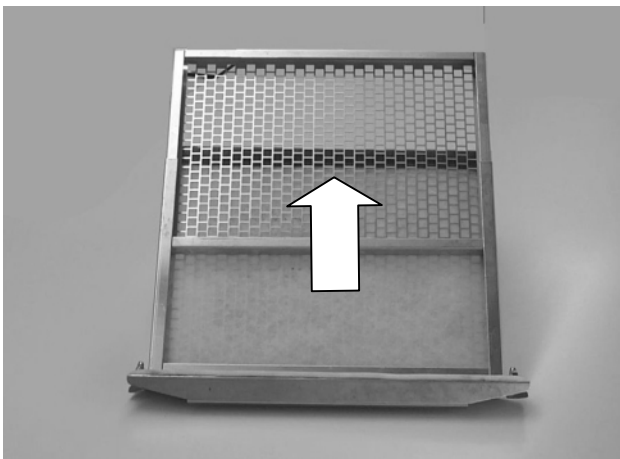

Figure 6: Filter gauze back-up frame
- 3) Slide-out the filter gauze back-up frames one by one (see Figure 6).